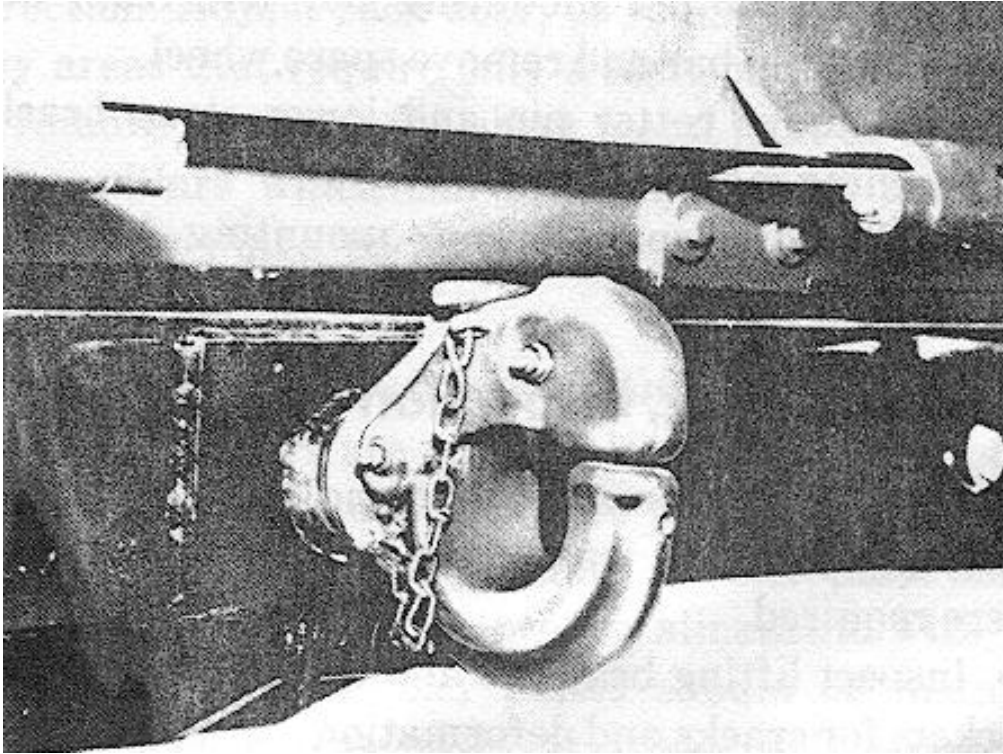

Figure 2-91. Rear pintle hook.
a. Pintle. (Fig 2-91)
- (1) Remove cotter pin, slotted nut and plain washer from the front end of pintle; remove pintle hook.
- (2) Inspect the lubrication fitting in pintle hook. If the fitting is damaged, it must be replaced.